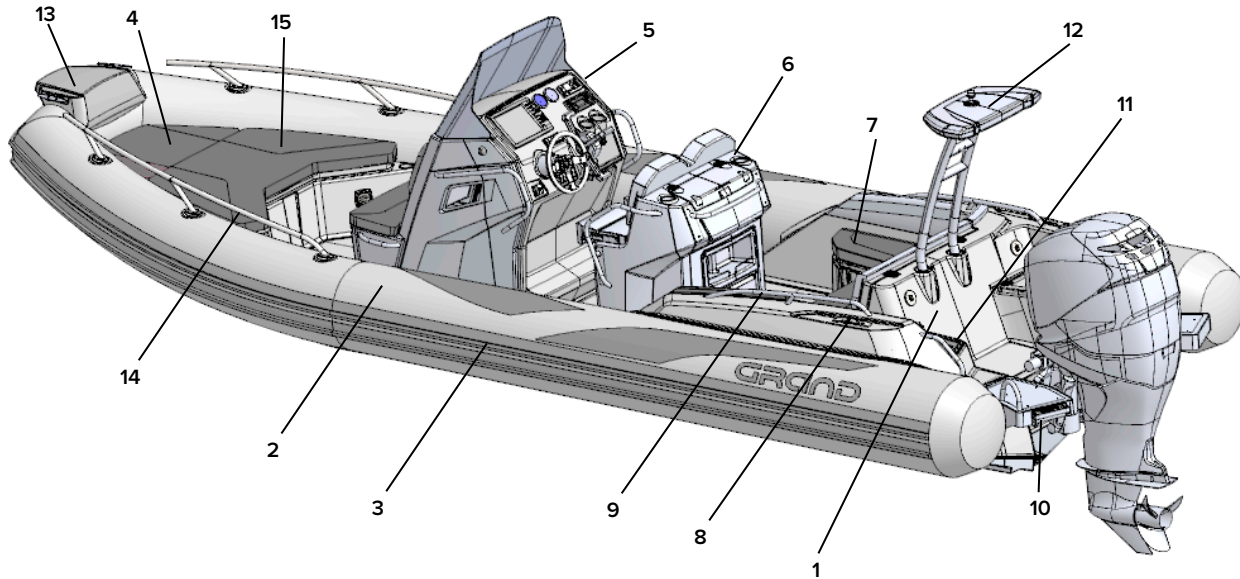

Fig. 49. General arrangement of a boat.
*General arrangement of a boat (see fig. 49 on the previous page):*